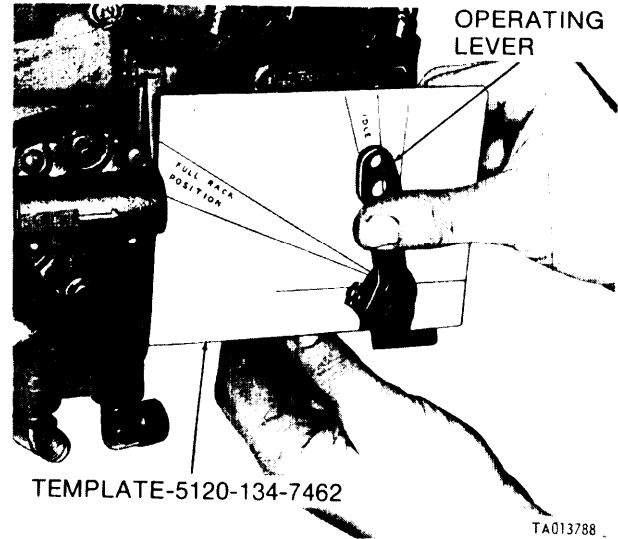

Figure 3-175. Checking operating lever position (code A pumps).
(10) Restart the test stand and adjust speed to 150 rpm, with operating lever in full fuel position. Set count at 1000 and collect fuel in fuel burettes. Fuel flow should be in accordance with Table 3-7. If the fuel flow is below specified limit, the hydraulic head and plunger are worn excessively and the head must be replaced. Replace hydraulic head assembly if proper flow is not obtained, and retest the pump.
(11) Activate fuel injection pump electric solenoid fuel shut-off. Apply 24 v dc to solenoid electrical connection. Fuel should stop flowing immediately each time the solenoid is activated. If shut-off does not operate, replace solenoid (para 3-47).
(12) Check operating lever travel with template, 5120-134-7462, as shown in fig. 3-175. Template should be held flush against side of transfer pump with center line mark aligned with shaft. Center line of lever must fall within lines indicated. If not within template limits, check governor spacers and springs, gaps and preloads, operating lever to operating shaft position, and smoke limit torque cam angle. If corrections are necessary, fuel flow of pump should be rechecked after any adjustments are made.